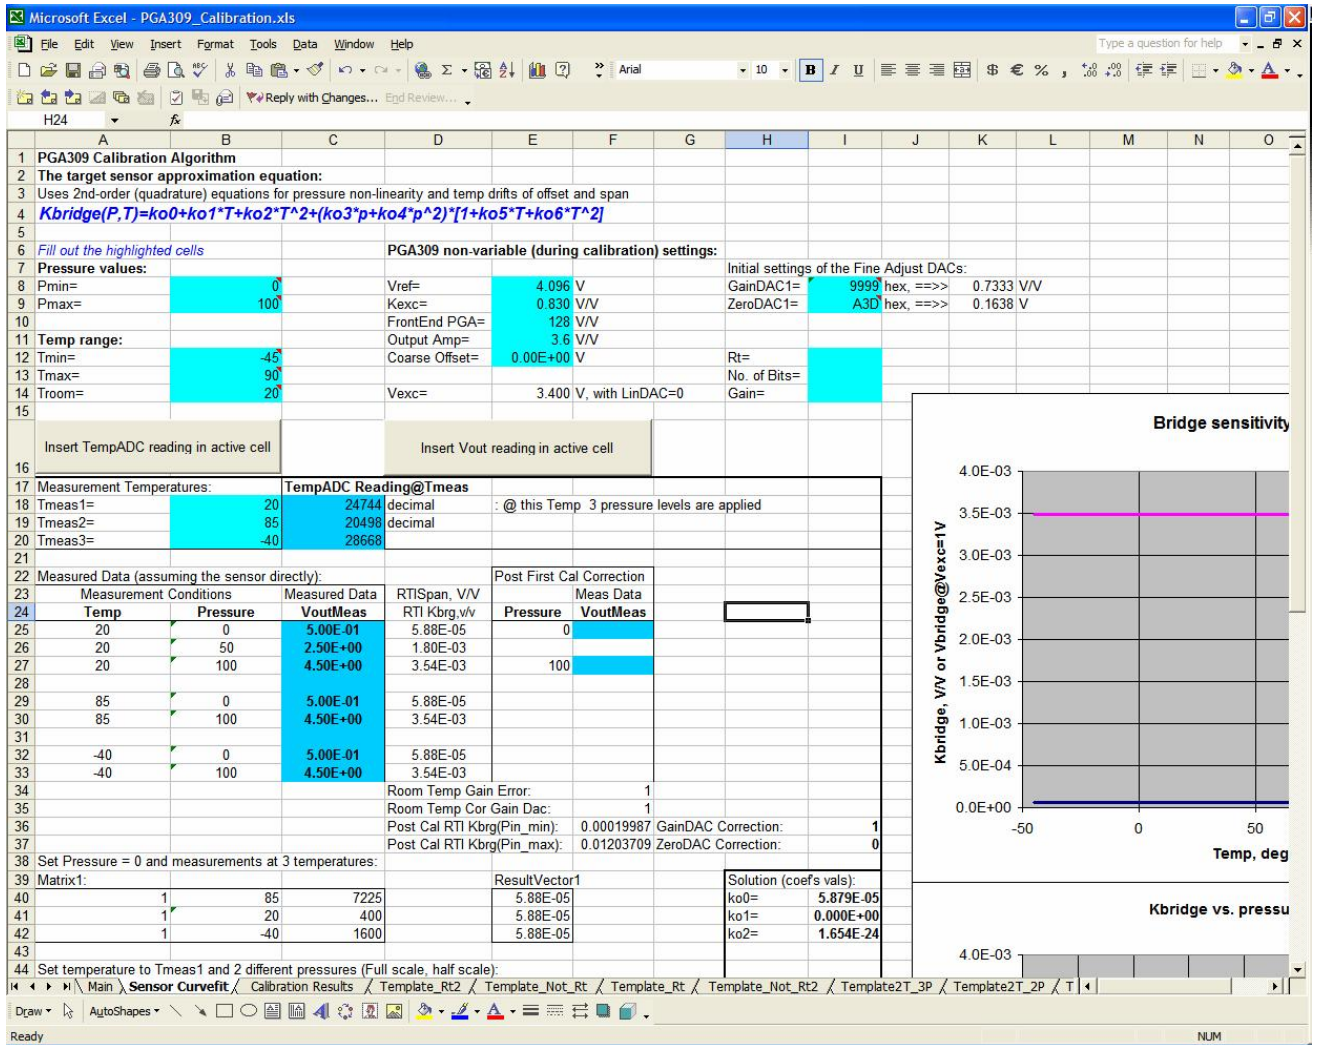

Figure 33: Sensor Curvefit Worksheet
2) The "Sensor Curvefit" Worksheet (Figure 33) is the place where all results of the calibration measurements are entered and the sensor compensation coefficients are calculated. The fields colored light blue contain pre-selected values, such as PGA309 Gain and Offset settings, the temperatures where the measurements are made and sensor pre-characterized parameters (such as span drift non-linearity). The dark-blue fields are the ones where the measured values are entered at each stage of the calibration. The framed area is filled out when "Prepare Calibration Sheet" is clicked on the previous page. It contains the cells with calculations specific to the chosen calibration algorithm. The two control buttons paste in the current worksheet cell either the last Vout reading or the last Temp ADC value from the Board Control Program. This saves the manual typing of the numbers. However, all the data can be also entered manually if the measurements are made with other equipment than the PGA309EVM PC Interface Board.